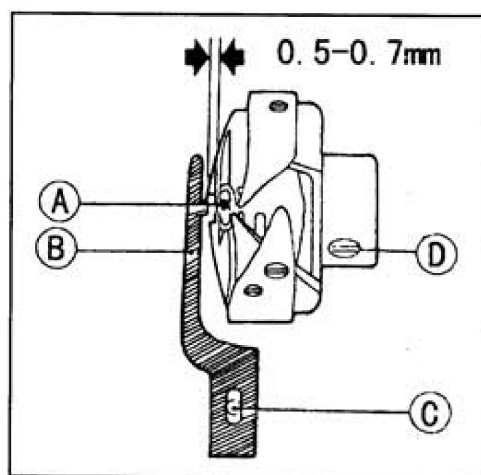

Fig. 21
17. REPLACE ROTATING HOOK (Fig.21)